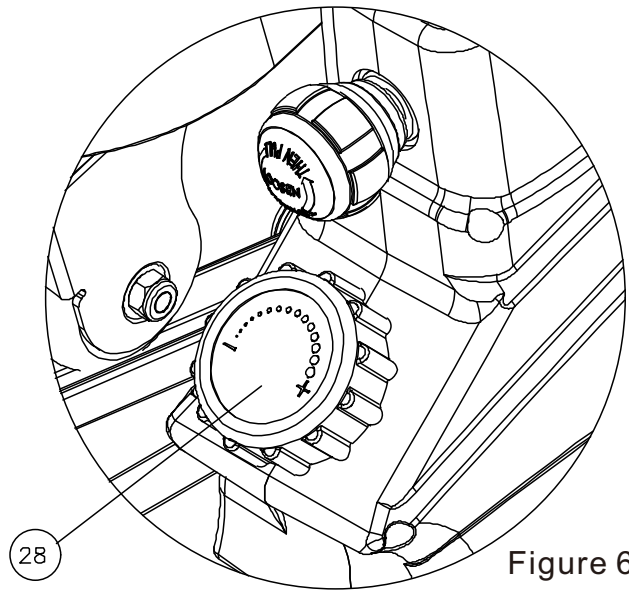

Figure 6
6. The magnitude of the resistance can be adjusted by rotating the "+" and "-" buttons on the 28-step speed regulator left and right. As shown in Figure 6: